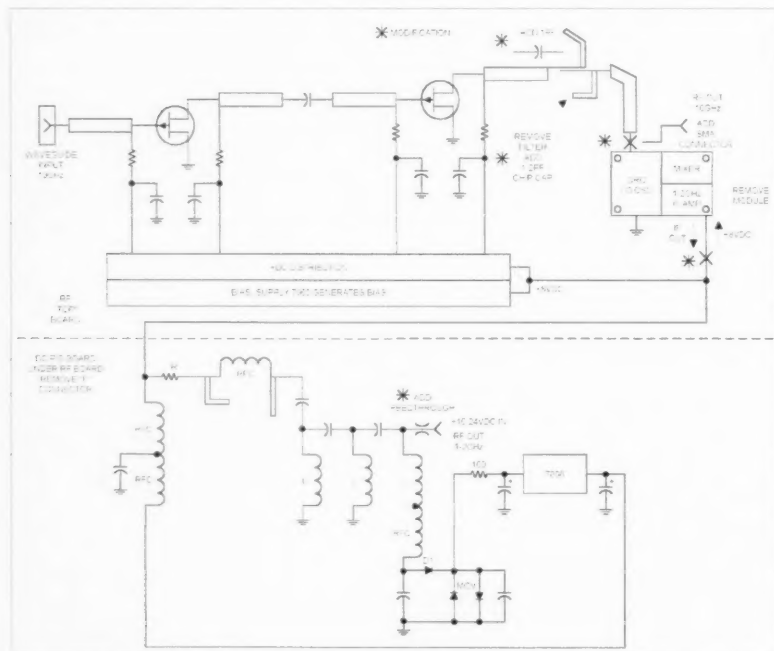

Fig. 1. A short version of a reverse-engineered schematic of the beige downconverter.
**Fig. 1** is a short version of a reverse-engineered schematic of the beige downconverter. As you can see from the schematic, the DRO module we described was of great interest. It was discovered that not only was there an internal microwave DRO-type oscillator, but the RF mixer and IF preamplifier at 1 to 2 GHz range were also co-located inside this module as well. Quite high-tech to say the least. This fact made the conversion easy, as the remaining circuitry was the power supply and microwave RF circuits. These were the ideal remaining components, as the DRO, mixer, and IF were not needed in trying to make a great 10 GHz LNA for amateur microwave use. By the way, no conversion for frequency operation at the lower 10 GHz seemed to be needed — just the removal of the output filter and replacing it with a 1 to 2 pF microwave chip capacitor was required.
**Fig. 1.** Just a couple of clicks! This is s-o-o-o easy. Select the QSO from the MixW 2 log, double-click the file (see text) in the MixW folder and this prints on your Microsoft Word page. And it looks better than this if you simply print it to some card stock and mail it off. For some reason, the resolution went down the tube when I ran this into the clipboard and massaged it in the graphics program. But it does serve the purpose; you get a custom QSL print you will not be ashamed of and IT IS FREE. Always counts in my (pocket) book. If you are using the latest version of Word, the instructions say you can do a bit of customizing. The above print is as it comes from the box. This was the first experiment. Simply closed my eyes and shot from the hip.